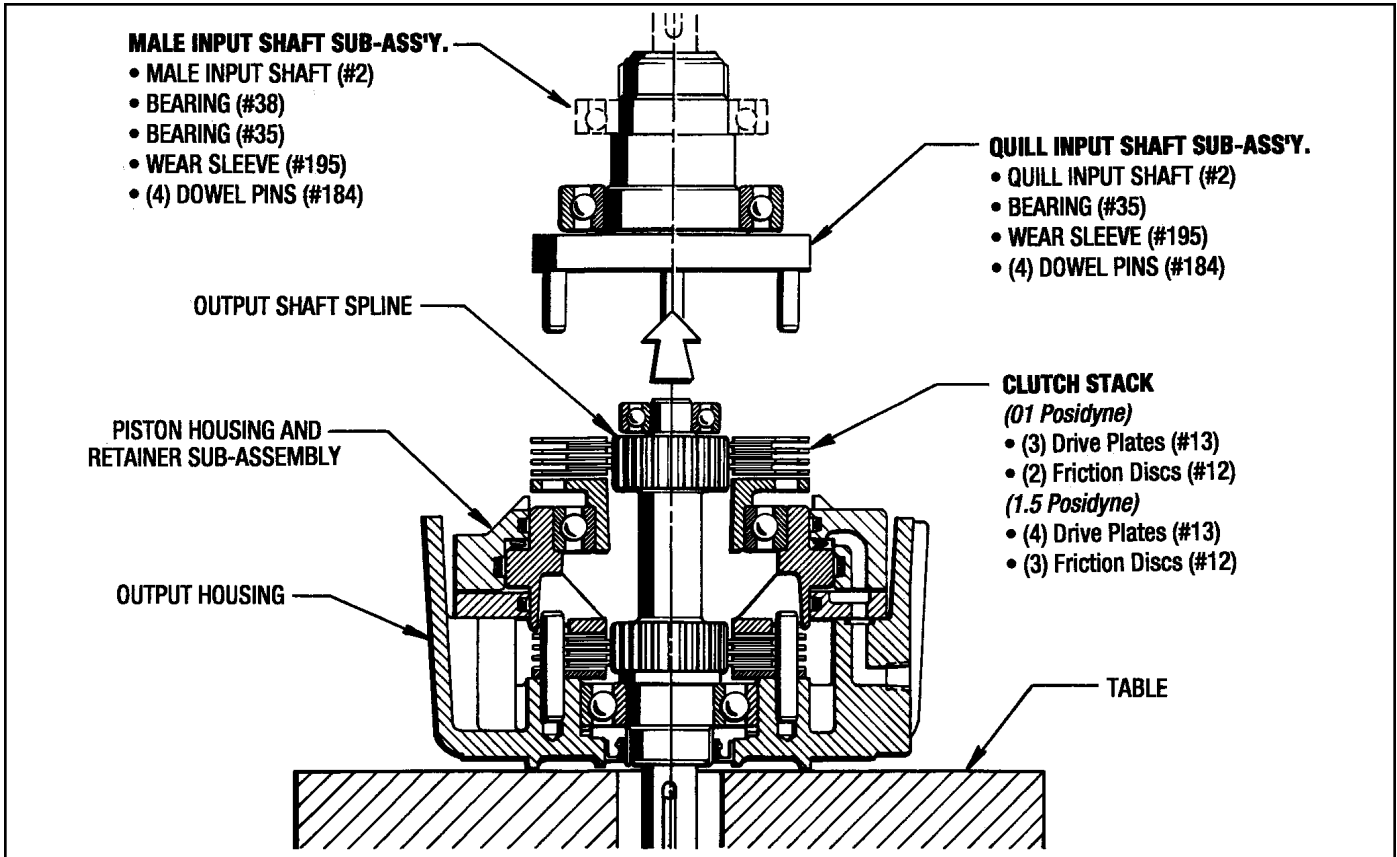

Figure 7.2 - Access to the Clutch Stack
6. The Clutch Stack can now be removed from the Output shaft spline. This includes Drive Plates (#13) and Friction discs (#12) (See Figure 7.2)
7. Remove (4) Screws (#63) and (4) Lockwashers (#127) from the Piston Housing Assembly. Pull the Piston Housing Sub-assembly out of the Output Housing and over the end of the Output Shaft (#1).